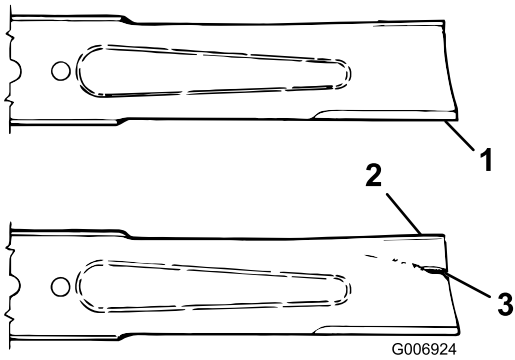

Figure 67
3. Examine the cutting ends of the blade carefully, especially where the flat and curved parts of the blade meet (Figure 67).
4. If wear is noticed (Figure 67), replace the blade; refer to Servicing the Blade Plane (page 57).
If the blade is allowed to wear, a slot will form between the sail and flat part of the blade (Figure 67). Eventually a piece of the blade may break off and be thrown from under the housing, possibly resulting in serious injury to yourself or bystanders.